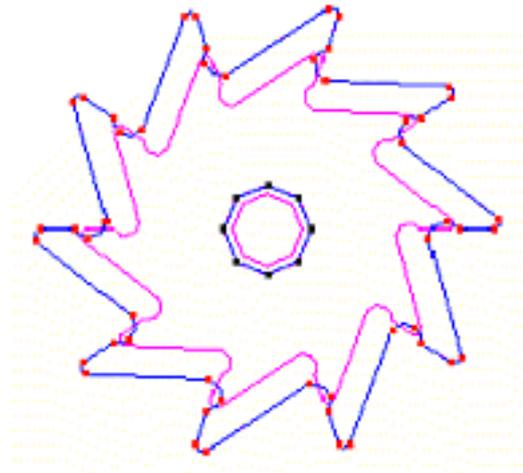

Figure 34. The selected points of the wheel profile
- 3 . Select only the points on the wheel profile (Figure 34). One way of doing this is to select the entire part and then deselect the points that form the prism hole. Press **ESC** to conclude the selection process.